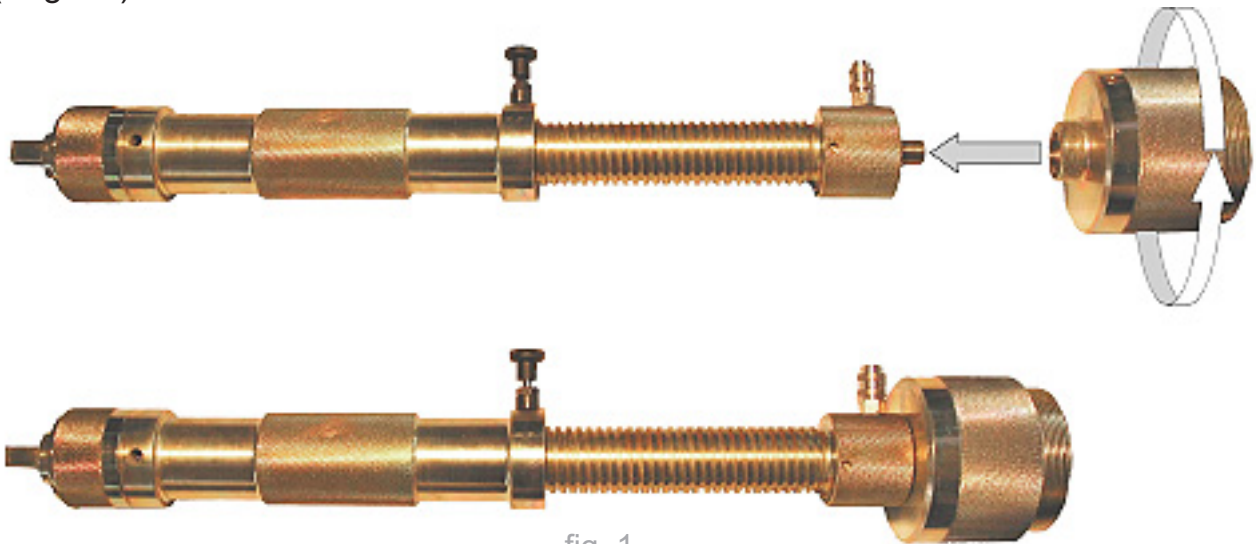

fig. 1
- 1 - Take the machine out of the tool box by grabbing it around the central knurled part; take out the hole saw cutter and the hole saw carrier connector you need. Install the carrier connector by screwing it up to the O-ring and then tighten it with the pin wrench. (fig. 1).